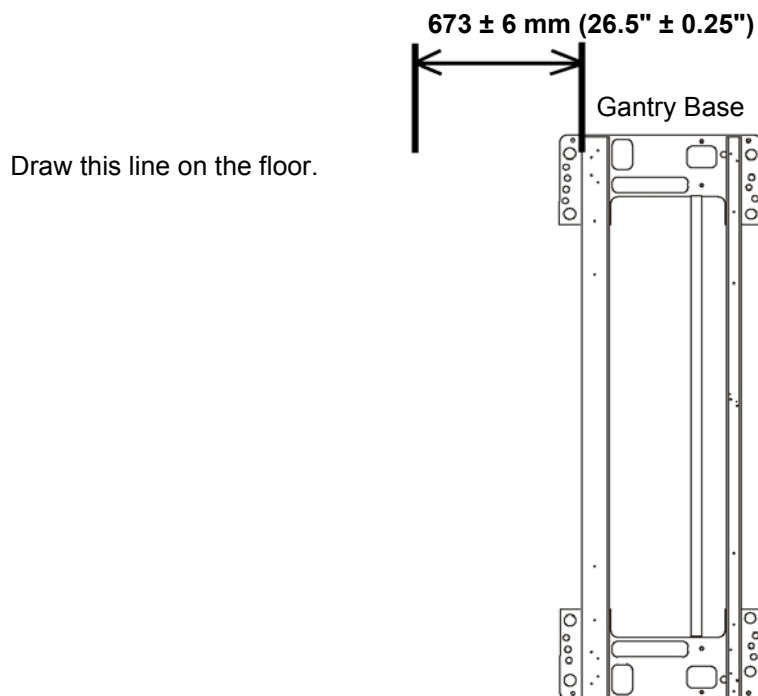

Figure 1-25 Draw Reference Line
- 1.) Draw a reference line of $673 \pm 6 \text{ mm}$ ($26.5" \pm 0.25"$) position from Gantry Base on the floor as shown in the Figure 1-25. This line should be parallel to the gantry. In a later section, you will move the table against the 673 mm (26.5") mark.